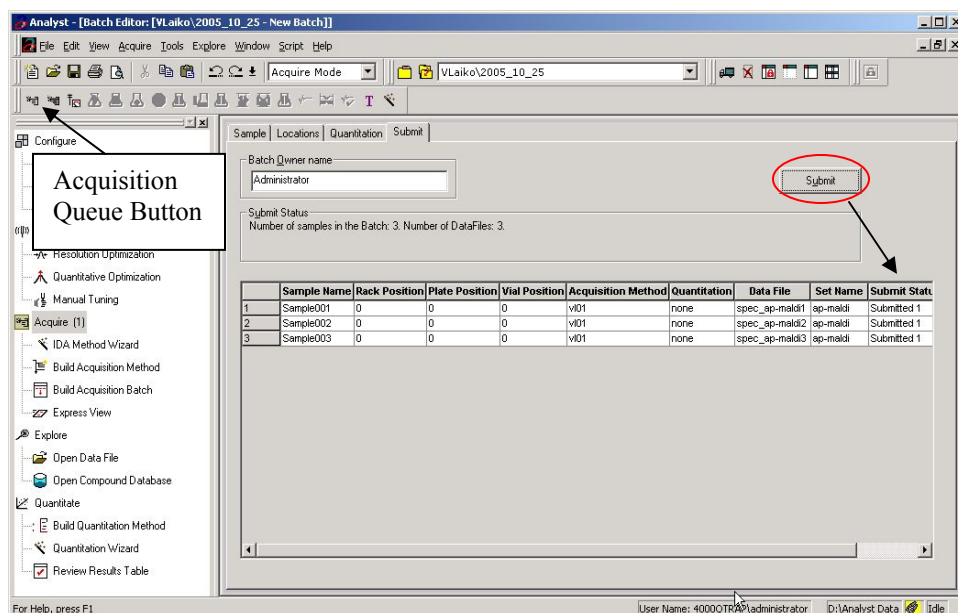
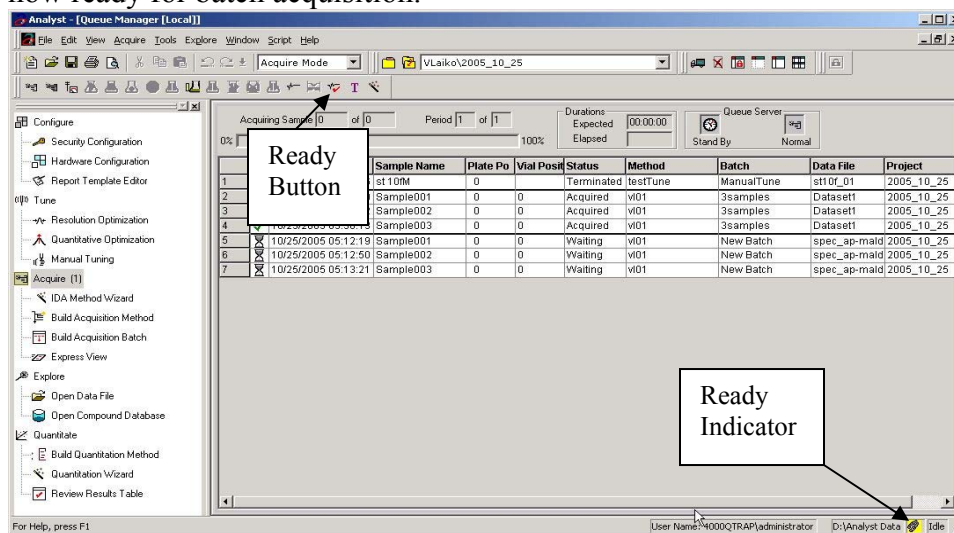

Fig. 7-34. The Acquisition Batch for the tree samples is submitted.
Fig. 7-35. Acquisition Queue window of Analyst software.
- Now you have Submit bar opened as shown in Fig. 7-34. Click “Submit” button. “Submitted Status” column for all samples should change from “Not Submitted” to “Submitted” (Fig. 7-34).
- Click “Acquisition Queue” toolbar button of *Analyst* window (Fig. 7-34). Switch Q-trap from “Standby” to “Ready” mode by clicking “Ready” toolbar button shown in Fig. 7-35. The color of instrument status (Ready Indicator) should change to green (Fig. 7-35). Q-trap is now ready for batch acquisition.